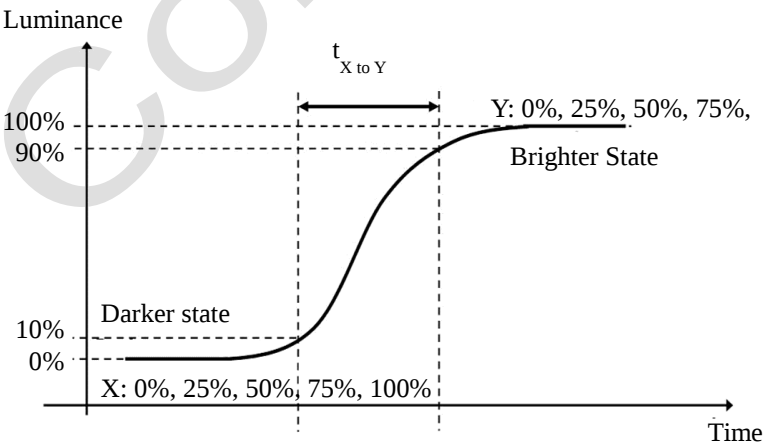

Fig. 6.4 The definition of $t_{X \text{ to } Y}$
(3) Response time TL is defined as the average transition time in the response time matrix. The table below is the response time matrix in which each element $t_{X \text{ to } Y}$ is the transition time from luminance ratio X to Y. X and Y are two different luminance ratios among 0%, 25%, 50%, 75%, and 100% luminance. The transition time $t_{X \text{ to } Y}$ is defined as the time taken from 10% to 90% of the luminance difference between X and Y ($X < Y$) as illustrated in Fig.6.4. When $X > Y$, the definition of $t_{X \text{ to } Y}$ is the time taken from 90% to 10% of the luminance difference between X and Y. The response time is optimized on refresh rate $F_r = 60\text{Hz}$.